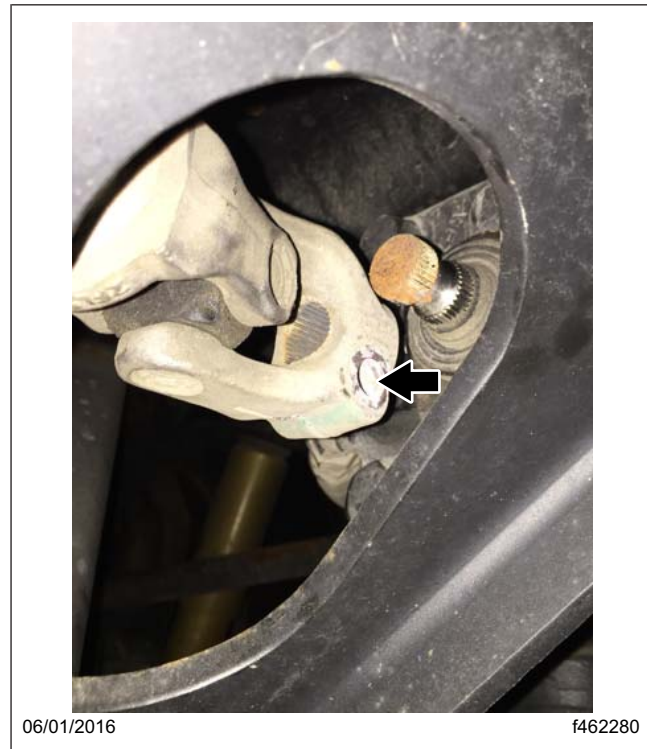

Fig. 8, Intermediate Shaft Disconnected (pinch bolt removed)
5. Disconnect the intermediate shaft. See Fig. 8.